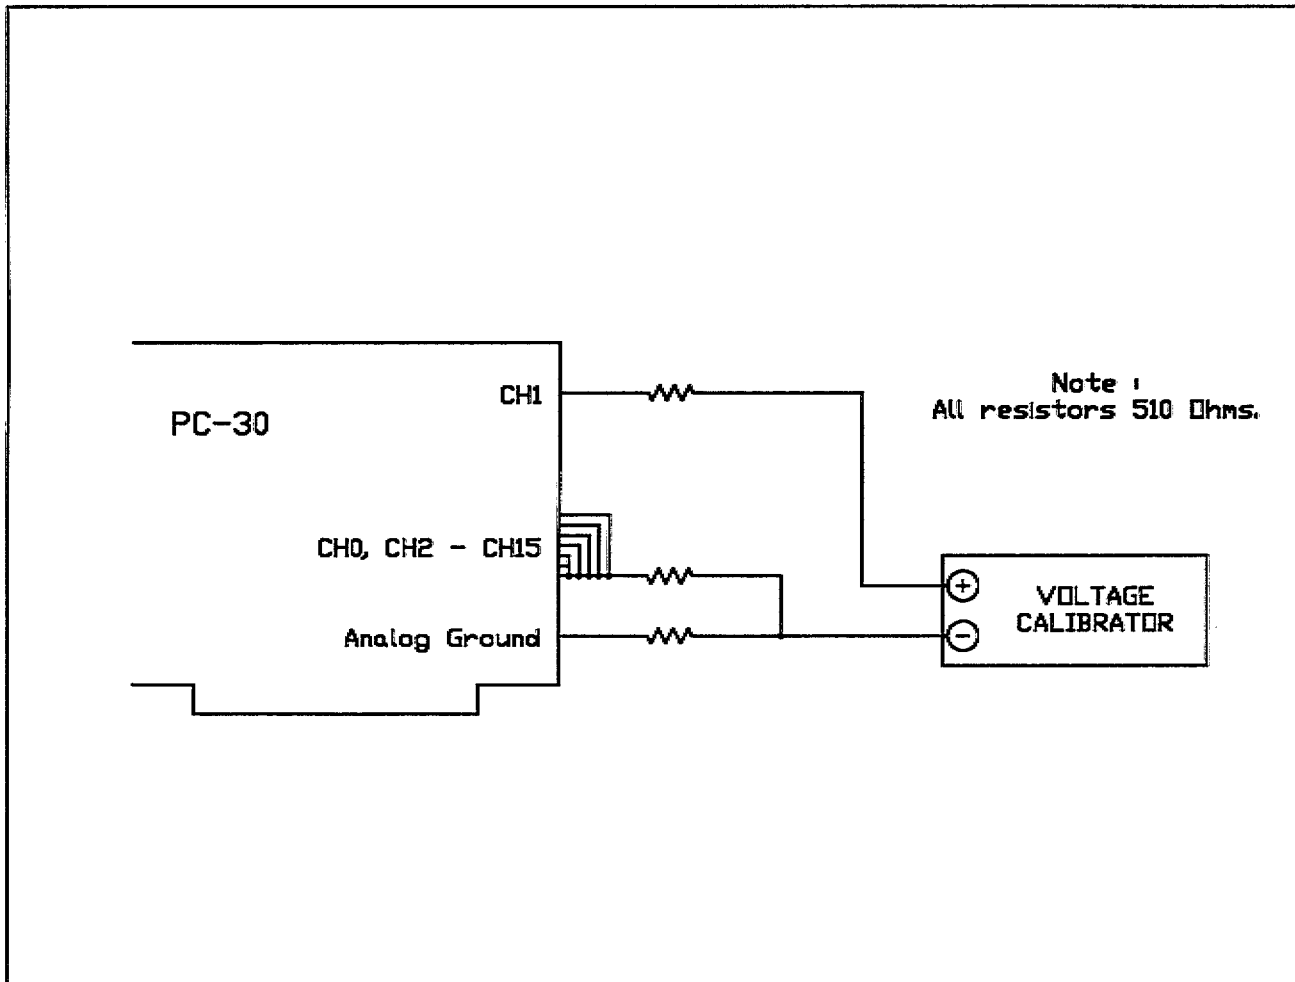

Figure 7.1. A/D calibration connections.
- i. Calibration is done on channel 1. The recommended connector wiring is shown in figure 7.1.